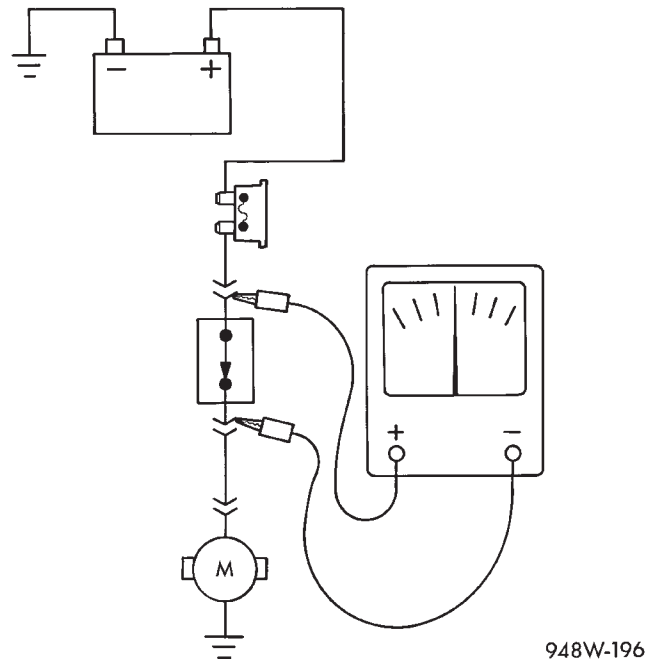

Fig. 9 Testing for Voltage Drop
(1) Connect the positive lead of the voltmeter to the side of the circuit closest to the battery (Fig. 9).
(2) Connect the other lead of the voltmeter to the other side of the switch or component.
(3) Operate the item.
(4) The voltmeter will show the difference in voltage between the two points.